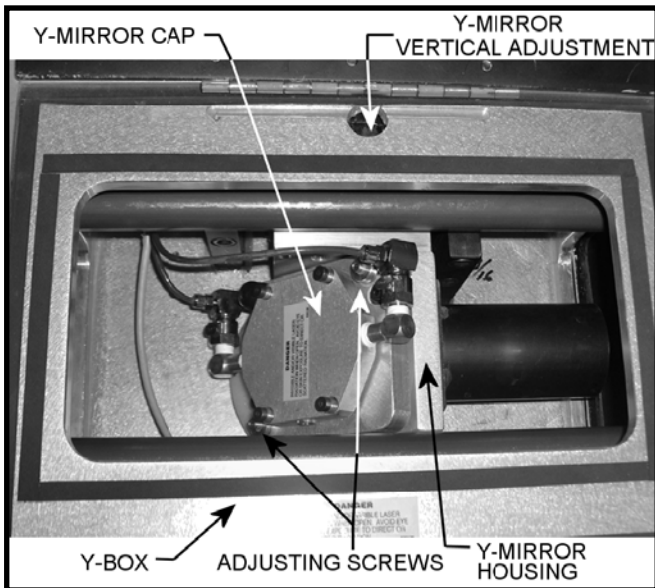

FIGURE 9-24 Y-Axis mirror top view
- Remove the front gantry cover. See Figure 9-24.
To make the vertical adjustment, Adjust the slide vertically by turning the adjusting 3/16 " hex located through the access hole labeled Y-mirror vertical adjustment in Figure 9-24.
9. Compare the two cross hair impressions. If the two card shots do not indicate the same beam position within $\pm 0.020"$ (.5 mm), make steering adjustments to the moving Y-mirror. See Figure 9-24.